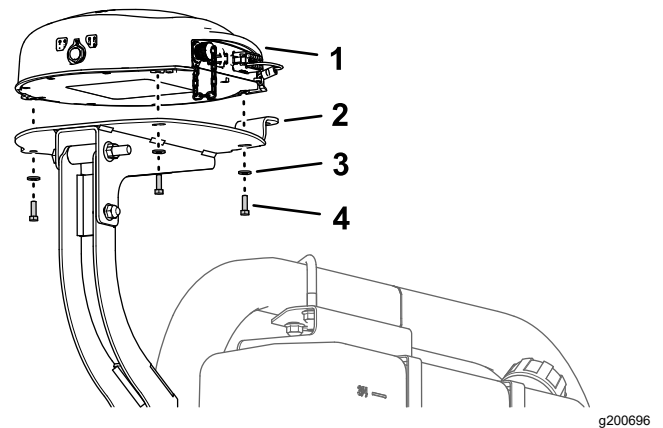
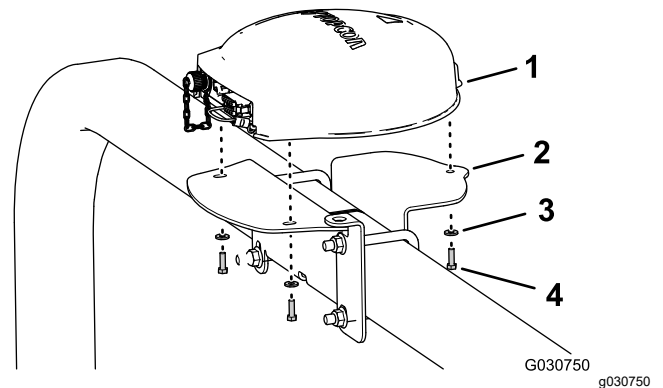

Figure 49
Figure 50
1. Remove the 3 capscrews (5 x 16 mm) and 3 washers (5 mm) that secure the navigation receiver to the receiver mount (Figure 49 or Figure 50).